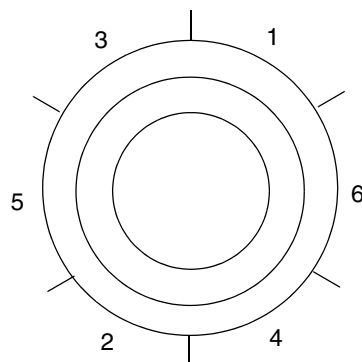

Figure 6. Welding Procedure
2. Weld the spud mounting ring in sections as indicated in Figure 6.
3. Tack weld using the welding sequence shown in Figure 6. Cool each section with water until the temperature is below 700°F (370°C) before proceeding to the next section.
2. Tack weld using the welding sequence shown in Figure 6. Cool each section with water until the temperature is below 700°F (370°C) before proceeding to the next section.